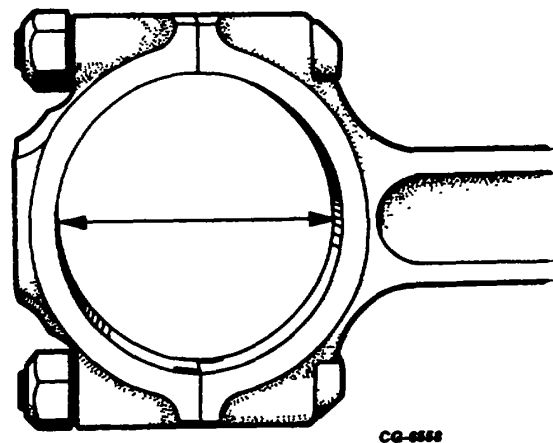

Figure 74. Connecting Rod Bearing Bore Measurement
**Bore Size:** With connecting rod cap installed and bolts tightened to specified torque, bearing bore (Figure 74) should be within specified limits (See SPECIFICATIONS).